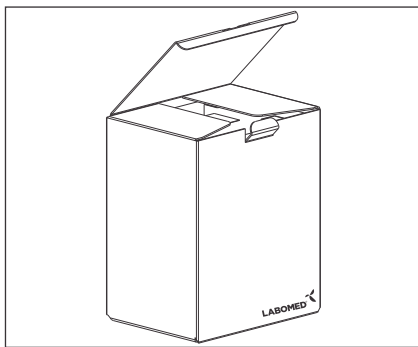

Fig. 1
2. To avoid potential shock hazards and burns when replacing LED, turn the microscope's main switch to OFF position and disconnect power cord from wall outlet in advance. Whenever you replace bulb during use or right after use, allow lamp socket and bulb to cool before touching (Fig. 1)